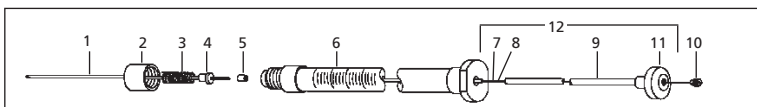

Figure 1. Exploded view of plunger-in-needle syringe
(Refer to figure 1, 2 and 3):
- As illustrated in figure 1, a small PTFE Seal (5) is located inside the glass barrel around the plunger and located at the back end of the needle. This seal should not require replacement in general use but if it becomes dislodged or damaged it can be replaced as follows:
- Loosen cover nut (2) and withdraw plunger assembly.
- Remove cover nut (2), needle (1) and spring (3).
- Remove old seal (5) by inserting an old plunger with a blunt tip.
- Hold insertion tool assembly in one hand and syringe barrel in the other and insert seal (13) and tube (14) into the small hole in the glass barrel where the needle normally fits. Then withdraw wire (15) about 5 mm which will leave the seal in position.
- Replace needle (1) and cover nut (2), ensuring spring (3) is located on needle stop (4). DO NOT TIGHTEN NUT.
- Tighten cover nut (2).